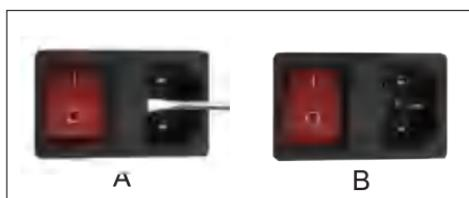

Figure 14
1. Insert a flat-blade screwdriver into the groove of the fuse compartment below the power port and move it (see Figure 14-reference A);
2. Pull out the fuse compartment (see Figure 14-reference B);
Danger: Select and replace the fuse according to the label attached to the bottom of the component; 3. Put the fuse compartment back to its original position (see Figure 14-reference B).